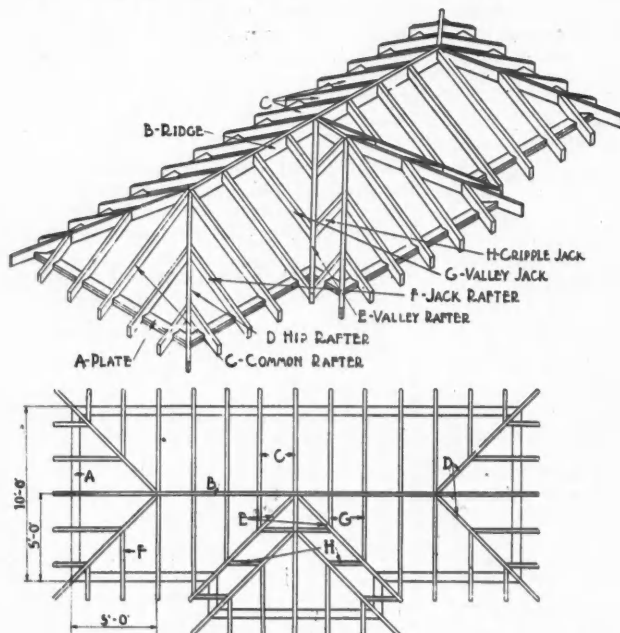

Fig. 20. Showing the Different Parts of a Hip Roof.
In Figure 20 we show the several parts of a hip roof. The lower part of the illustration is a plan view and the upper part is an isometric or as might be called a sort of perspective. The plan view when drawn to scale will give the run of the different rafters but not the lengths.
2. If the roof in Figure 20 is 5/8 pitch what is the length of the hip rafter?